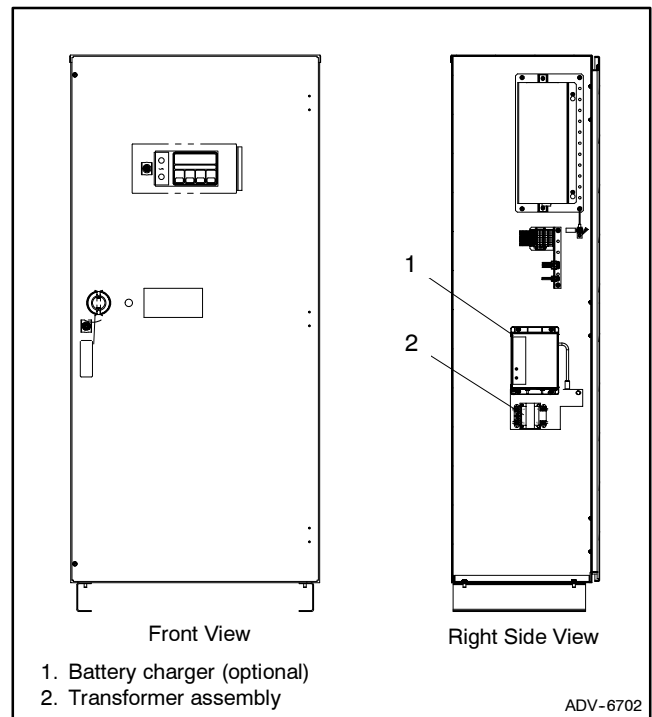

Figure 4 Transformer Assembly Location, 600-800 Amp Models
3.4.2 600-800 amp models: See Figure 4. Mount the transformer assembly on the right side of the enclosure onto the two lower battery charger mounting studs. Mount the transformer assembly mounting plate *under* the battery charger, if installed. Secure the assembly with two nuts (X-6210-2).